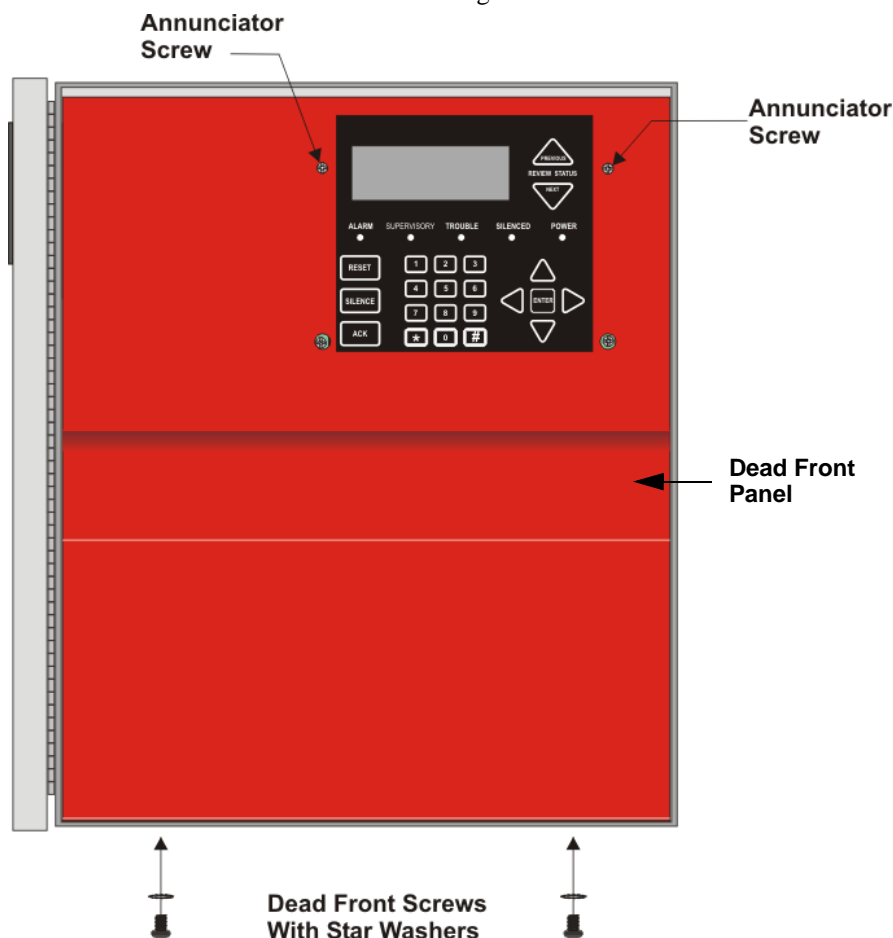

Figure 4-1 Dead Front Installation and Removal
1. Remove the top two annunciator screws, do not discard them they will be reused. See Figure 4-1 for annunciator screw location.
2. Set the dead front into the cabinet as shown in Figure 4-1.
3. Reinsert the two annunciator screws as shown in Figure 4-1.
4. Insert the two screws with the star washers into the bottom of the cabinet to secure the dead front into place. See Figure 4-1.
1. Remove the two annunciator screws, do not discard them. See Figure 4-1.
2. Remove the two screws and star washers from the bottom of the cabinet. See Figure 4-1.
4. Reinsert the two annunciator screws. See Figure 4-1.